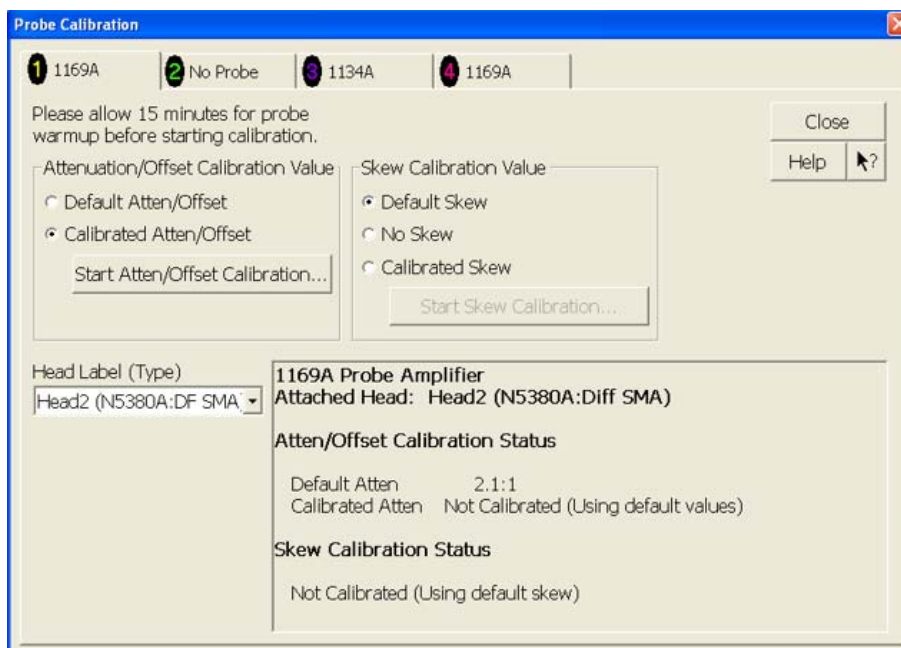

Figure 94 Probe Calibration Window.
- 3 Referring to Figure 94 below, perform the following steps: